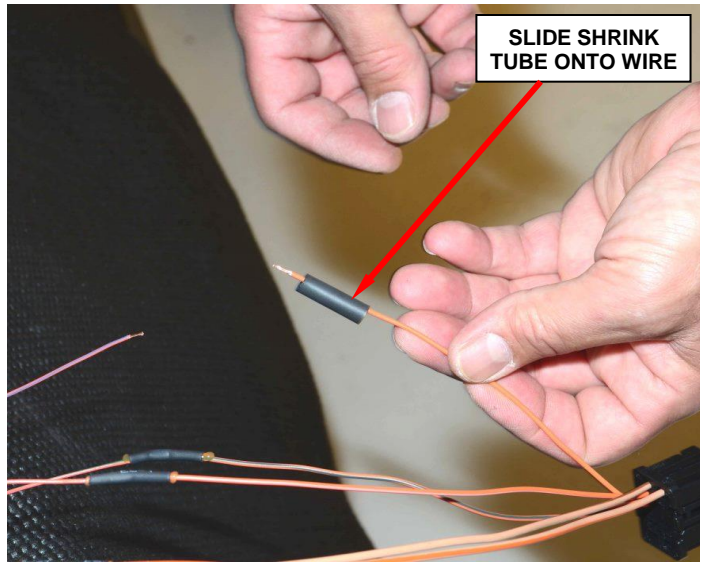

Figure 10 – Place Shrink Tube on Wire
- c. Place the black shrink tube provided in the repair kit over the cut wires (Figure 10).